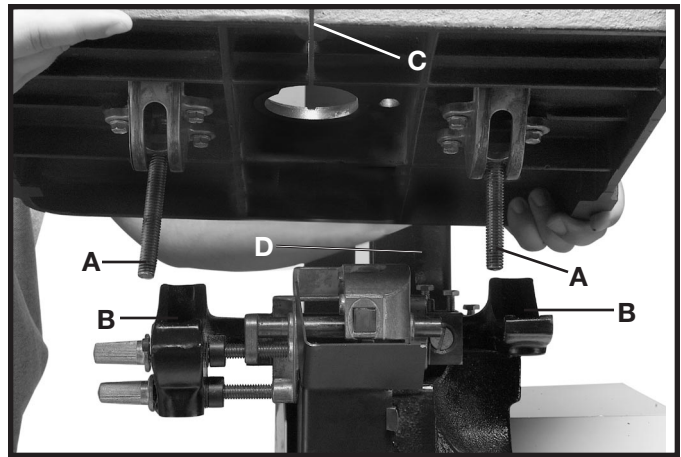

Fig. 27
1. Align the two table studs (A) Fig. 27, in the bottom of the table, with the two holes in the trunnion assemblies (B). Place table on trunnion assemblies. **NOTE: MAKE SURE THE SLOT (C) FIG. 27, IN THE TABLE IS FACING AWAY FROM THE ARM (D).**